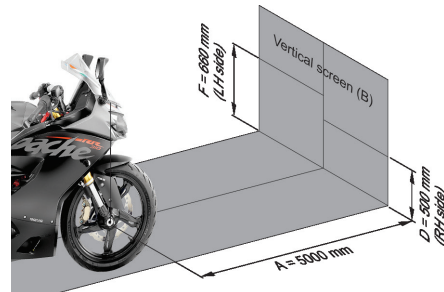

Fig. 37
- Place the motorcycle upright in a uniform flat surface while ensuring the head lamp center (A) is 5 meter away from a vertical wall or screen (B). (ref. Fig. 37)
- Adjust the RH side projector lamp adjuster (C) clockwise (Downward) or in anti-clockwise (Upward) and match the low beam cut-off line to the marking line (D) (500 mm) on a vertical wall or screen. (ref. Fig. 37 & 38)
- Adjust the LH side projector lamp adjuster (E) clockwise (Downward) or in anti-clockwise (Upward) and match the low beam cut-off line to the marking line (F) (660 mm) on a vertical wall or screen. (ref. Fig. 37 & 38)